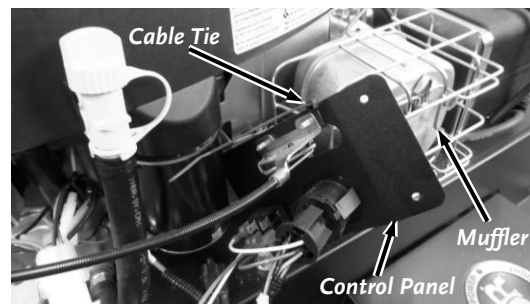

Figure 15
14. Cut the Cable Tie that is securing the Control Panel to the Muffler Guard using Wire Cutters (**Figure 15**).